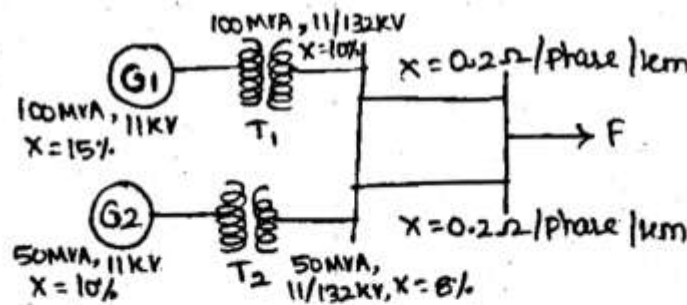

Figure. 13(b)
- (b) (i) Give the classification of various types of buses in a power system for load flow studies. (6)
- (ii) Give the advantages and limitations of Newton Raphson method. (6)
- (iii) What is meant by decoupled load flow method? (4)
13. (a) A 11 KV, 100 MVA alternator having a sub — transient reactance of 0.25 pu is supplying a 50 MVA motor having a sub — transient reactance of 0.2 pu through a transmission line. The line reactance is 0.05 pu on a base of 100 MVA. The motor is drawing 40 MW at 0.8 power factor leading with a terminal voltage of 10.95 KV when a 3-phase fault occurs at the generator terminals. Calculate the total current in the generator and motor under fault conditions. (16)
- (b) Figure 13. (b) Shows a generating station feeding a 132 KV system. Determine the total fault current, fault level and fault current supplied by each alternator for a 3 — phase fault at the receiving end bus. The line is 200 km long. Take a base of 100 MVA, 11 KV for LV side and 132 KV for HT side. (16)